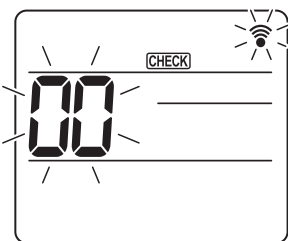
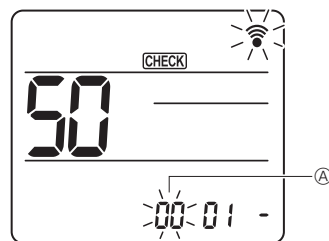
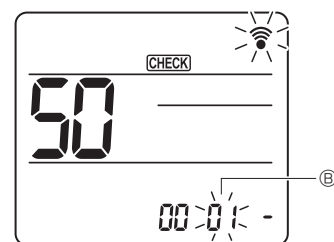
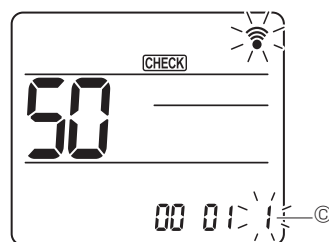

Fig. 7-16
Fig. 7-17
Fig. 7-18
Fig. 7-19
7.4.2. By wireless remote controller (Fig. 7-16, Fig. 7-17, Fig. 7-18, Fig. 7-19)
- ① Going to the function select mode
- [CHECK] is lighted and "00" blinks. (Fig. 7-16)
- ② Setting the unit number
- Press the [00] button to set unit number ①. (Fig. 7-17)
- ③ Select a mode
- Press the [50] button to set Mode number ②. (Fig. 7-18)
- ④ Selecting the setting number
- Use the [00] button to change the Setting number ③. (Fig. 7-19)
- ⑤ To select multiple functions continuously
- Repeat select ③ and ④ to change multiple function settings continuously.
- ⑥ Complete function selection